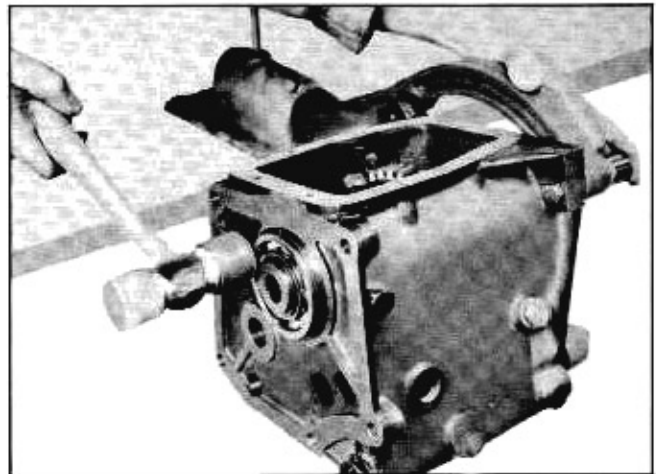

Fig. 7-46 Installing Clutch Gear Bearing
19. Drive clutch gear bearing into place (Fig. 7-46).